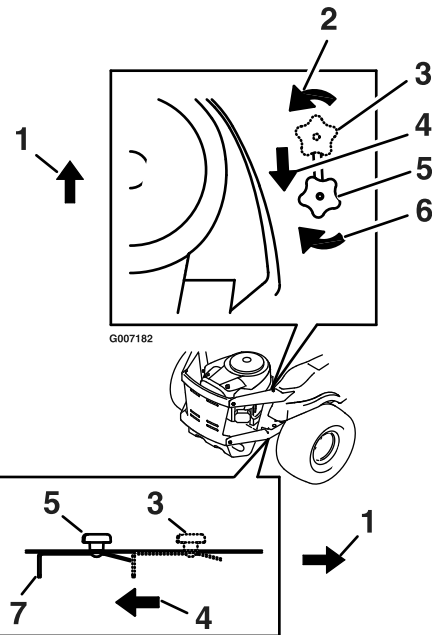

Figure 20
3. Locate the bypass release knobs on either side of the engine deck (Figure 20).
4. Loosen the knob by turning counterclockwise. Then pull the release lever on the underside of machine (Figure 20) towards the back of the machine and retighten the knob to hold the release lever back in the released state. Repeat this on each side of the machine.
Loosen the bypass knob, push the release levers forward, and retighten the knob to engage the drive system (Figure 20).